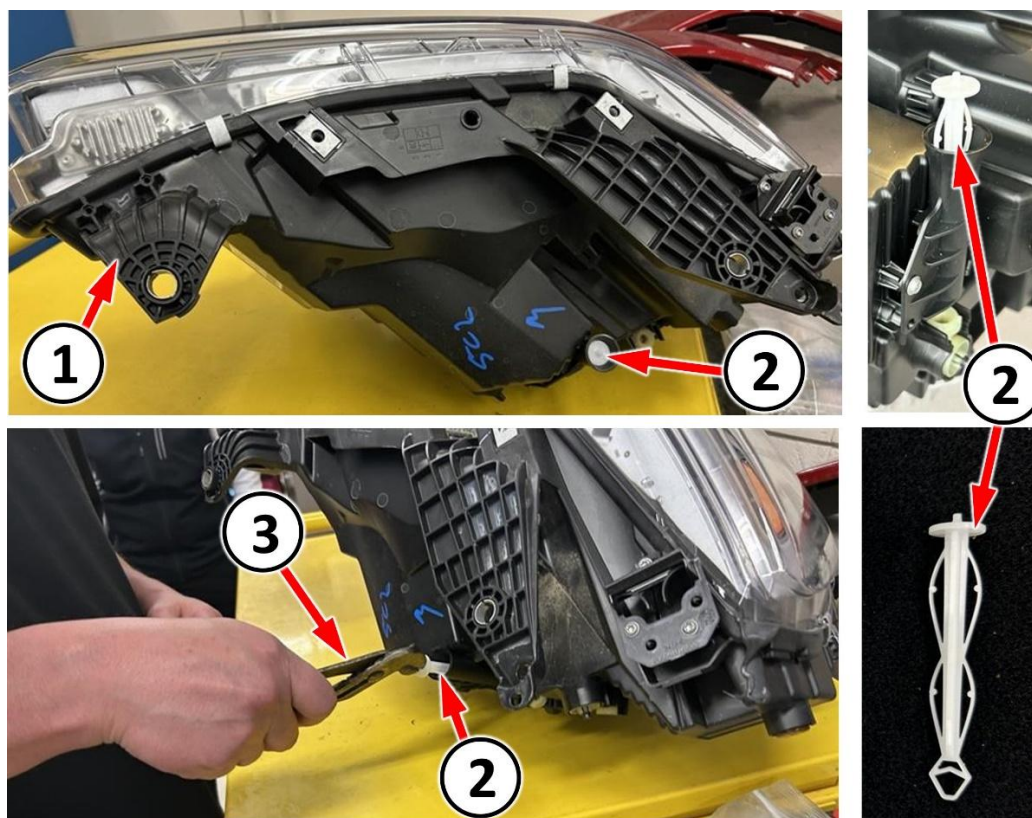

Figure C16 – Headlamp Alignment Anti-Tamper Plug
22. Remove the anti-tamper plug from the suspect headlamp and set aside for later installation into the **NEW** headlamp assembly (Figure C16).
39. Install the anti-tamper plug in the headlamp after headlamp aiming is complete (Figure C16).